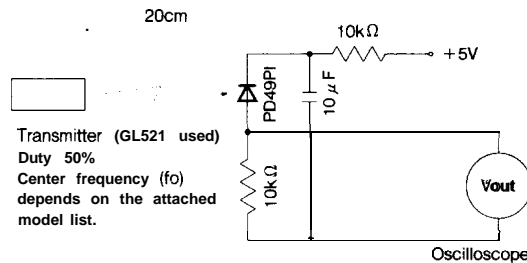
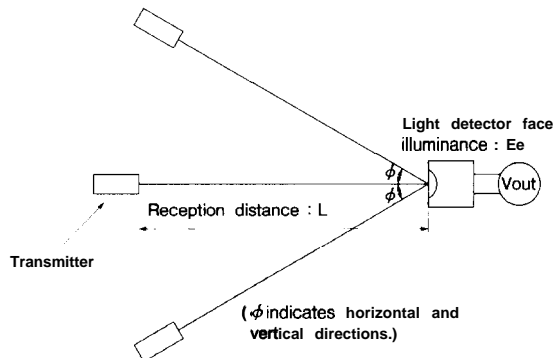

Fig. 1. **Transmitter**
Fig. 2. **Standard optical system**
*3 The burst wave as shown in the following figure shall be transmitted by the transmitter shown in Fig. 1.
Using the transmitter shown in Fig. 1, the output signal of the light detecting unit is good enough to meet the following items in the standard optical system in Fig. 2.
When $L = 0.2$ to 8m , $E_e < 10\text{ lx}$ and $\phi = 0^\circ$ in Fig. 2, the output signal shall meet the electrical characteristics in the attached list.
When $L = 0.2$ to 6m , $E_e < 10\text{ lx}$ and $\phi \leq 30^\circ$ in Fig. 2, the output signal shall meet the electrical characteristics in the attached list.
When $L = 0.2$ to 4m , $E_e \leq 300\text{ lx}$ and $\phi = 0$ in Fig. 2, the output signal shall meet the electrical characteristics in the attached list.